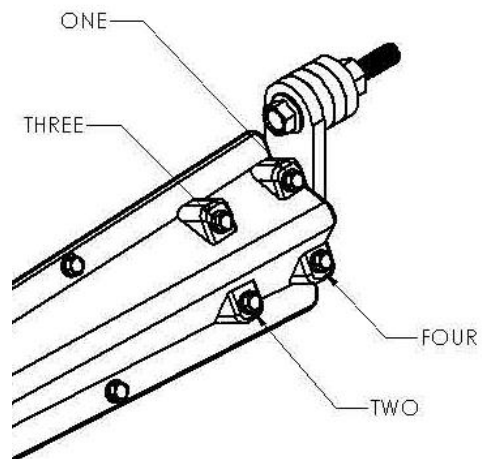

Figure 12
**TIP: Do not completely tighten one side of the backing block before moving to the other side. Alternate tightening bolts as pictured in Figure 12. Make sure to only tighten halfway and then repeat the pattern in Figure 12 until backing block is tight.**